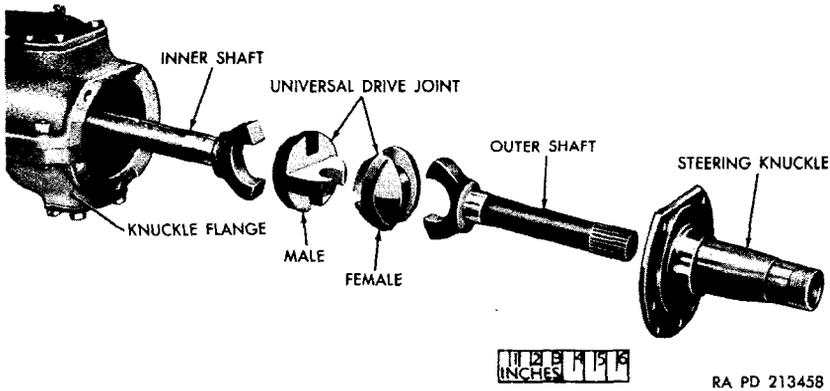

Figure 177. Steering knuckle and universal drive—exploded view.
a. Install Universal Drive, Steering Knuckle, and Brake Support (fig. 177).
- (1) Apply a coating of automotive and artillery lubricating grease to the parts and inside the bearing flange.